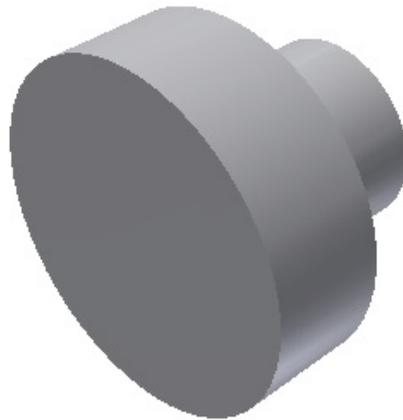

Figure 4-87 Model displayed using the perspective projection
1. Choose the **Perspective** tool from the **Appearance** panel in the **View** tab; the perspective view of the model is displayed, refer to Figure 4-87.